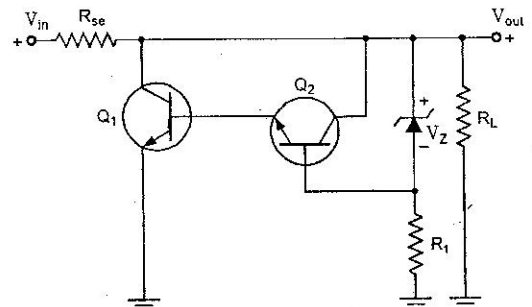

Fig. 32.13. Improved Transistor Shunt Voltage Regular Circuit
2. Improved Transistor Shunt Voltage Regulator. An improved transistor shunt voltage regulator circuit is illustrated in Fig. 32.13. The zener diode provides a reference voltage in order that the voltage across R_1 senses the output voltage. As the output voltage V_{out} tends to change, the current shunted by transistor Q_1 is varied in order to maintain the output voltage constant. Transistor Q_2 provides a larger base current to transistor Q_1 than the circuit